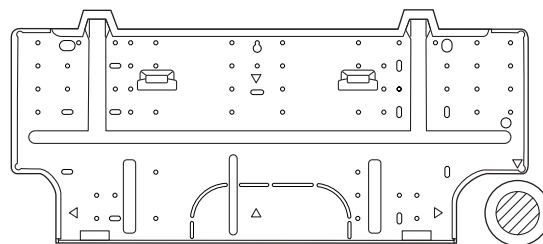

Fig. 13a
- (1) Attach the rear panel to the wall with the 8 screws provided. (Fig. 13a or 13b)